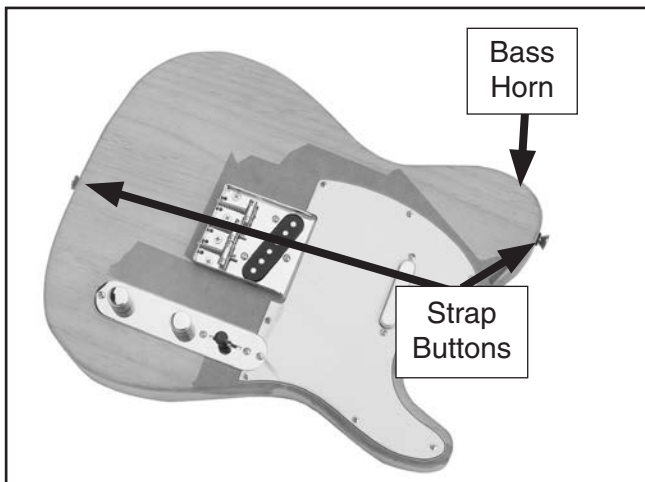

Figure 26. Example of strap button placement.
The strap buttons are positioned on the guitar as shown in **Figure 26**.
- Using a $\frac{3}{32}$ " drill bit, drill $\frac{1}{2}$ " deep holes at the end of the guitar—on the center line—and on the bass horn (**Figure 26**).